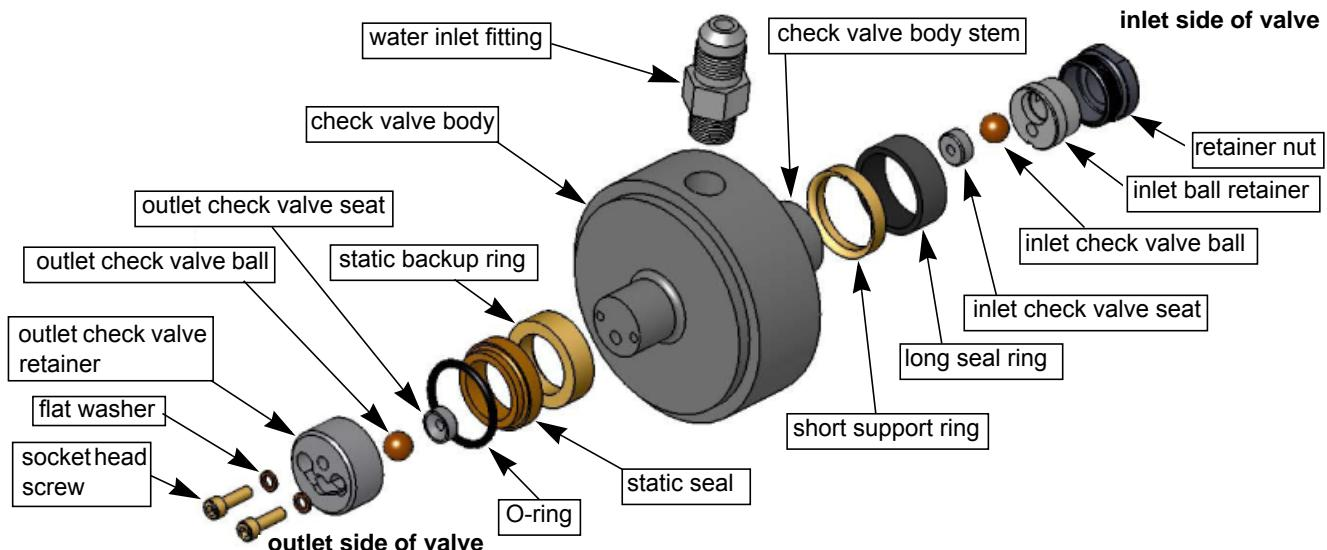
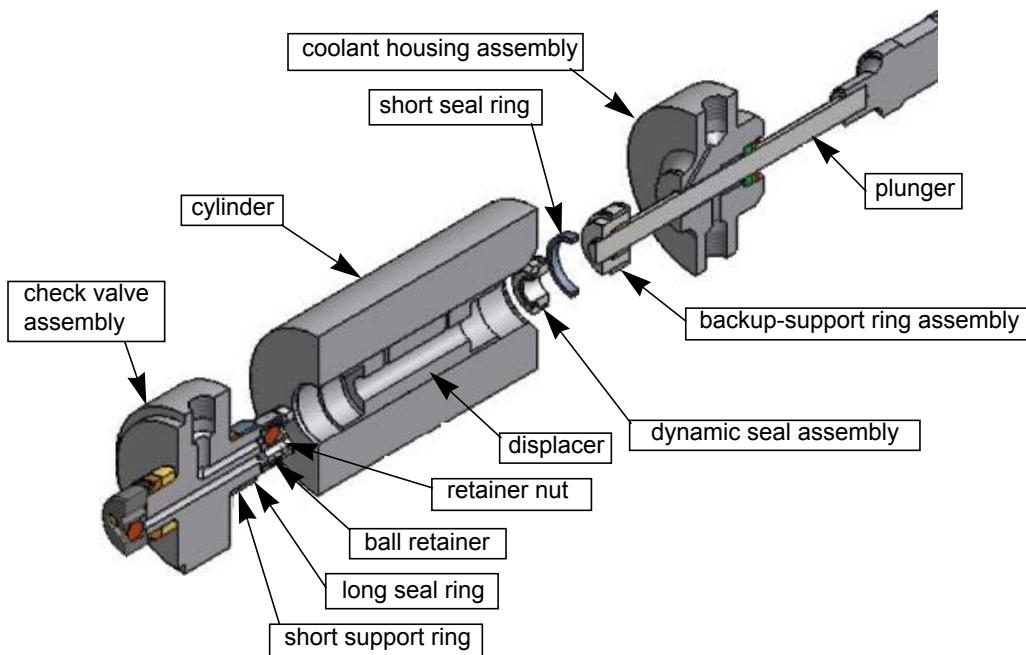

Figure 6-22
Figure 6-31
1. Apply a light coat of Lubriplate to the interior of the holes on the pressure manifold (Figure 6-1) and **check valve body** (Figure 6-22) outlet side O-ring and static seal.
3. Place the **displacer** over the **inlet check valve retainer** (Figure 6-22) until it contacts the **long seal ring** (Figure 6-31). Repeat this for all three check valve assemblies.